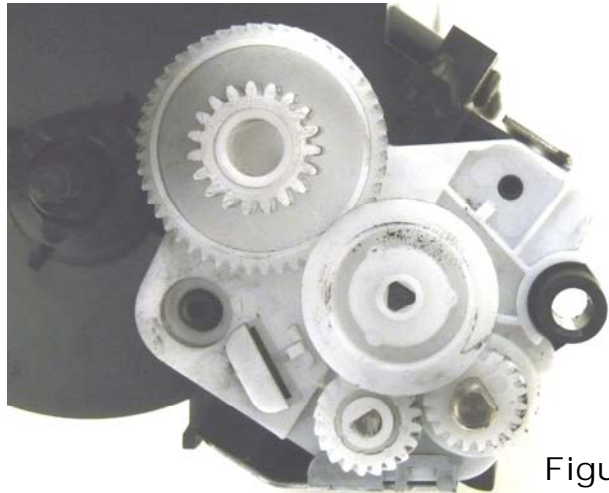

Figure 54
48) Install the four white gears as shown. See **Figure 54**